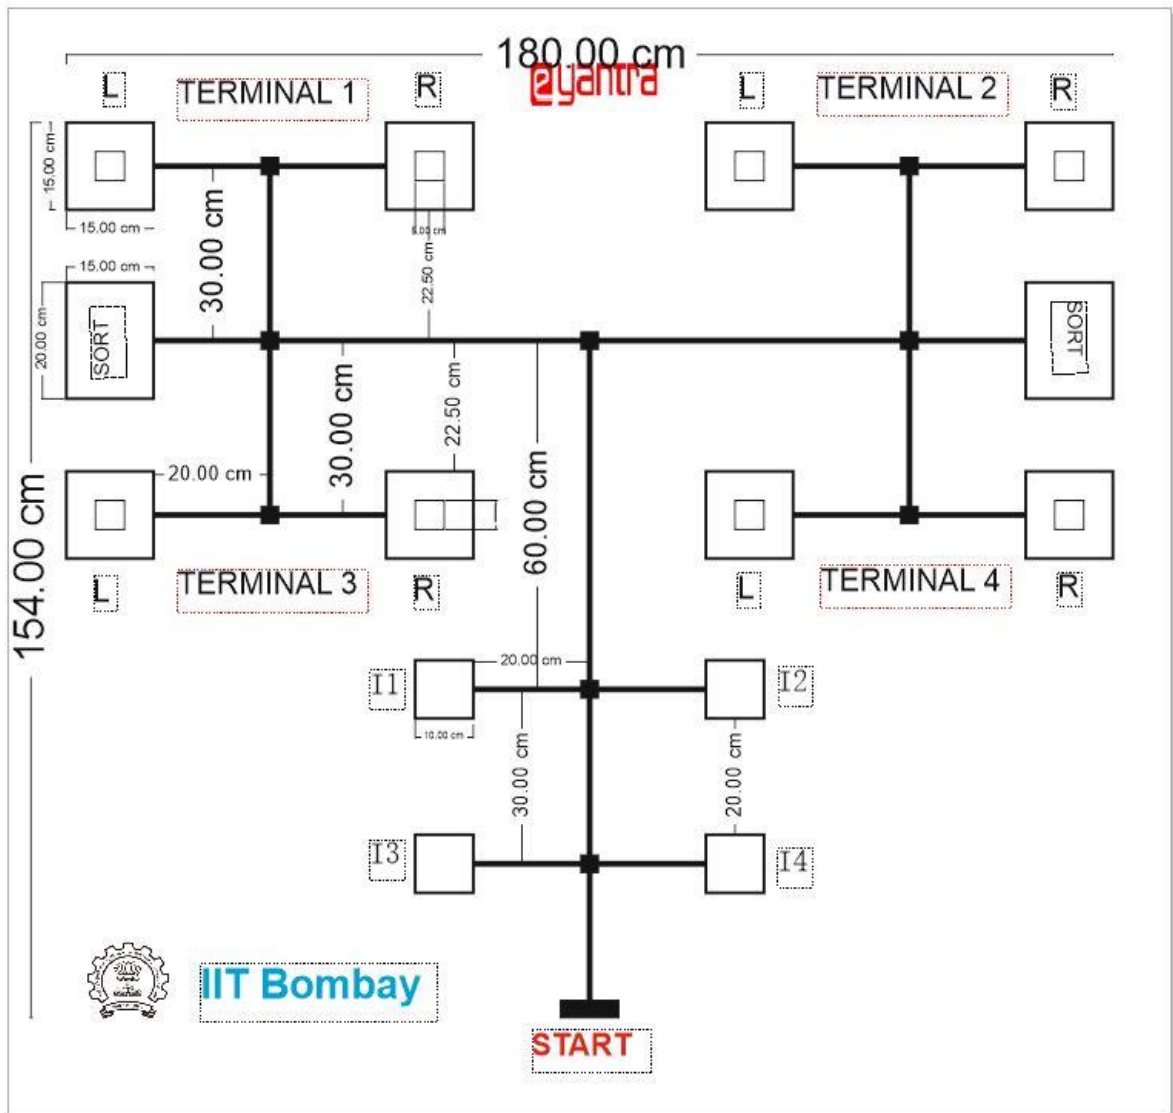

Figure 3: Arena Design
- The arena design is as shown in Figure 3.
- Dimension of the flex sheet is 190 cm x 200 cm. A margin of a few cms is provided on all sides to allow for sticking the flex sheet on the ground (Refer to Figure 3).